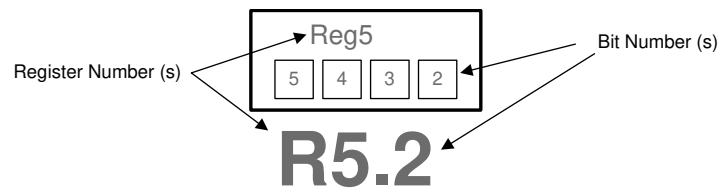

图 8-1. LMK61E07 Register Reference Format
图 8-1 shows the method that this document employs to refer to an individual register bit or a grouping of register bits. If a drawing or text references an individual bit, the format is to specify the register number first and the bit number second. The LMK61E07 contains 38 registers that are 8 bits wide. The register addresses and the bit positions both begin with the number zero (0). The bit address is placed in brackets or after a period. The first bit in the register file is address R0[0] or R0.0 meaning that it is located in Register 0 and is bit position 0. The last bit in the register file is address R72[7] or R72.7, referring to the 8th bit of register address 72 (the 73rd register in the device). 图 8-1 also lists specific bit positions as a number contained within a box. A box with the register address encloses the group of boxes that represent the bits relevant to the specific device circuitry in context.